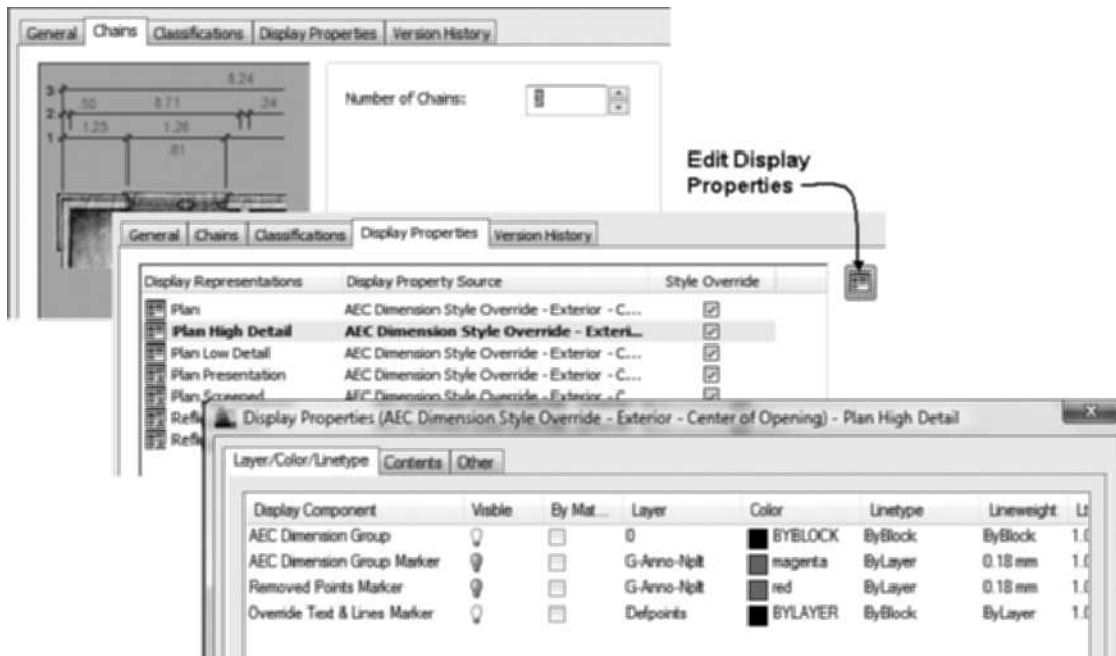

FIGURE 11.10 Chains and Display Properties tabs of an AEC Dimension Style
15. Choose the Chains tab of the right pane. This AEC Dimension style includes three chains as shown in Figure 11.10.
17. The Display Properties tab, shown in Figure 11.10, includes a list of the Display Representations, Display Property Source, and Style Override fields. Each display representation is assigned a dimension style, as shown in Figure 11.10; therefore, the properties of the dimension style are linked to the display configuration.
18. Choose **Edit Display Properties** button as shown in Figure 11.10.
19. Choose the Layer/Color/Linetype tab as shown in Figure 11.10. This tab allows you to turn off or on the display of the components of the dimension. The AEC Dimension Group consists of the dimension chains of the dimension. The AEC Dimension Group component is displayed for all display representations. The AEC Dimension Group Marker and Remove Points Marker, if turned on, can be selected to edit the grips of the dimension. The Removed Points Marker component is usually not visible since it is used to represent points that have been removed from the chain.